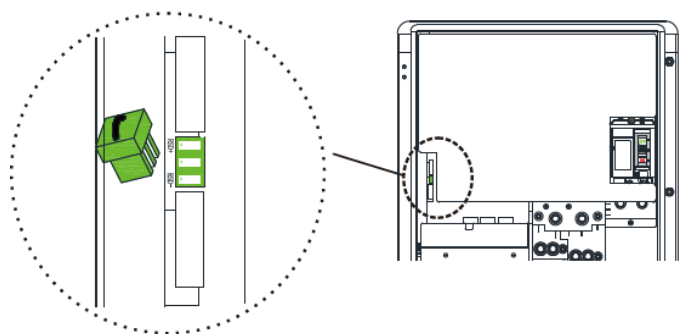

Figure1
2. Insert the 3-pin terminal with the short wire into the 3-pin interface of the SYN 200-XH-US, as shown in the right figure1.